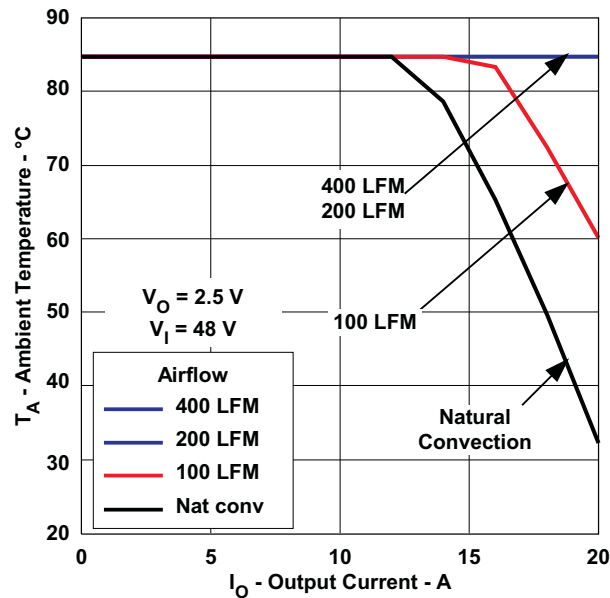

Figure 4.
- (2) The temperature derating curves represent operating conditions at which internal components are at or below manufacturer's maximum rated operating temperature. Derating limits apply to modules soldered directly to a 100-mm x 100-mm, double-sided PCB with 2 oz. copper. For surface mount packages, multiple vias (plated through holes) are required to add thermal paths around the power pins. Please refer to the mechanical specification for more information. Applies to Figure 4.